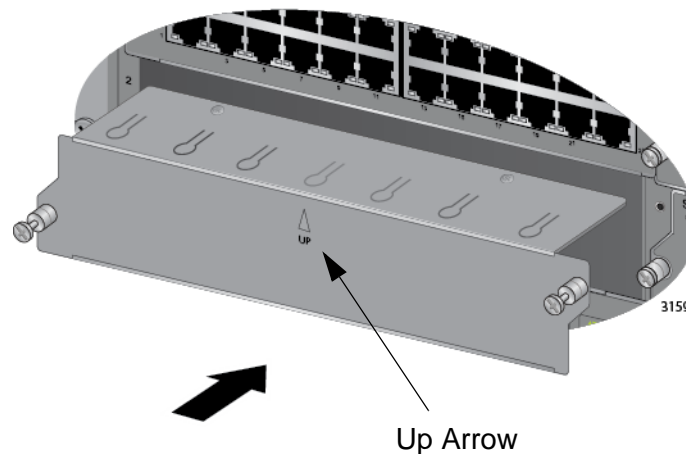

Figure 80. Installing a Blank Slot Cover
1. Position the blank slot cover over the unused slot, as shown in Figure 80. The up arrow on the panel must be pointing up.